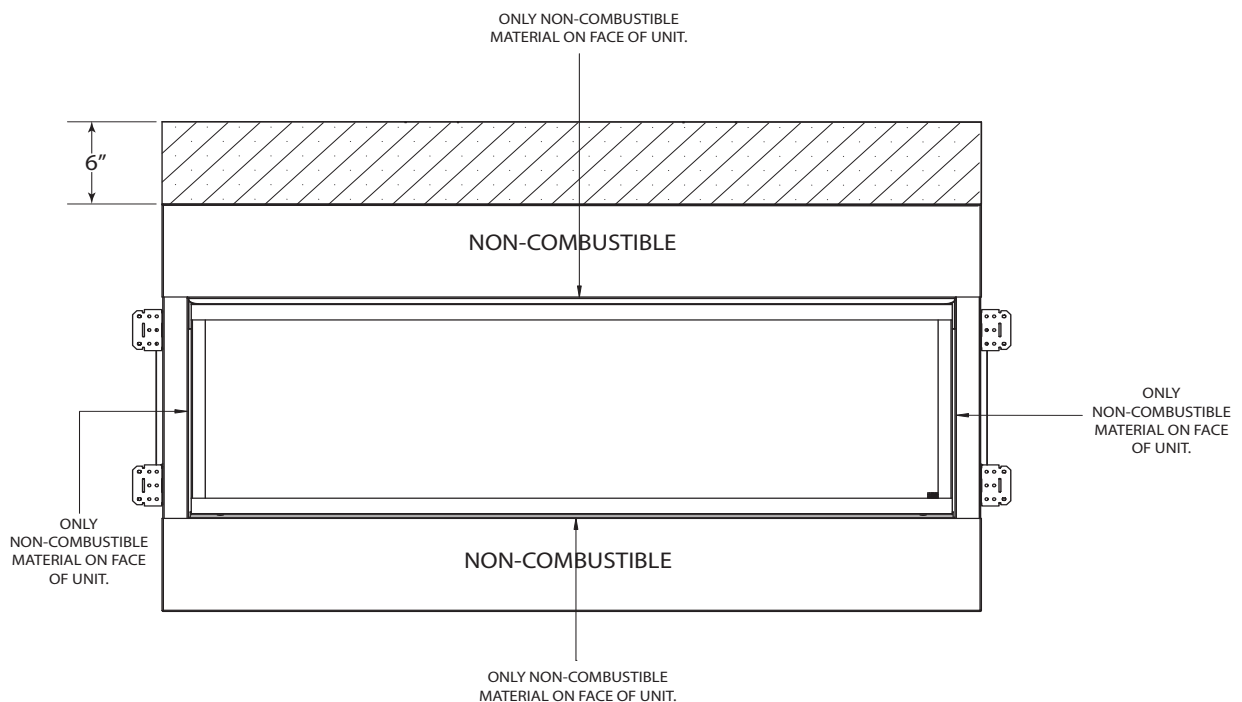
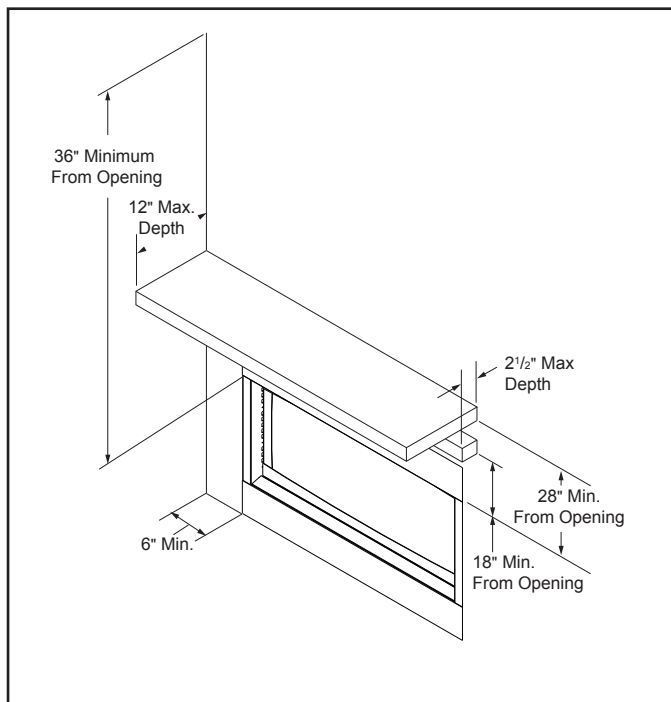
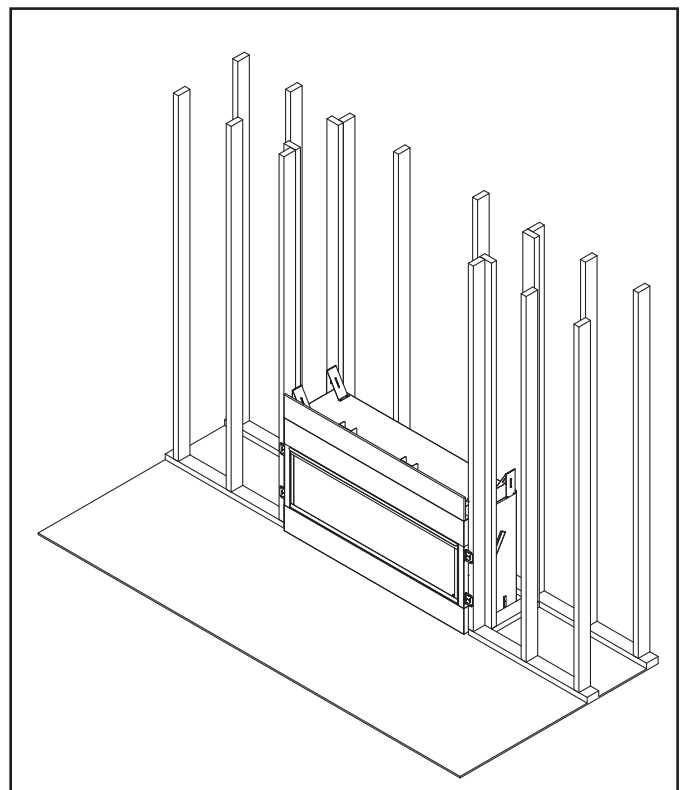

Figure 3.2 - Optional Facing Installation
Figure 3.4 Sidewall and Ceiling Clearances
Figure 3.7 Floor Protection
1. Position fireplace in desired location. Refer to the *Fireplace Location* (page 8, Figure 3.2) and *Clearances and Height Requirements* (page 9, Figures 3.4 and 3.5) sections and *Fireplace and Framing Dimensions* (page 8, Figure 3.2) illustration found in this manual.
Ensure that minimum clearances shown in Figures 3.4 and 3.5 are maintained. Left and right clearances are determined when facing the front of the firebox.
**Sidewall Clearances** — The clearance from the inside of the appliance to any combustible adjacent wall should not be less than 6". Figure 3.4.
**Ceiling Clearance** — The ceiling or any other combustible material must be at least 36" from the firebox opening. Figure 3.4
The dimensions shown in Figures 3.4 and 3.5 are minimum clearances to maintain when installing this heater. Left and right clearances are determined when facing the front of the heater.
**Mantel clearances** — Must meet the clearance requirements detailed in Figures 3.4 and 3.5.
**Note:** Figure 3.4 and Figure 3.5, and Figure 3.7 show the fireplace installed on the floor. However, this fireplace can be elevated off the floor provided that the fireplace is properly supported by framing materials and the ceiling clearances are maintained.